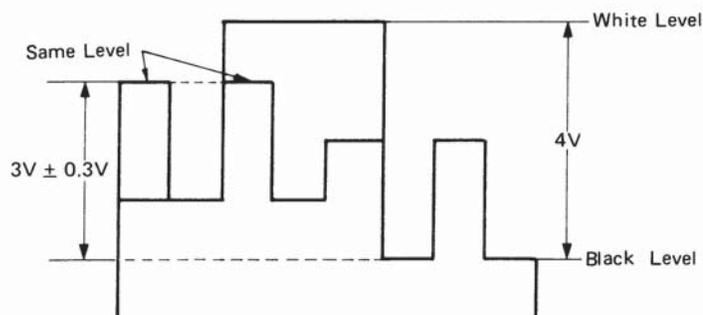

Figure 17 Waveform at TP46B
4. Adjust Tint (R306) and Color (R603) controls to achieve the waveform shown in figure 17.